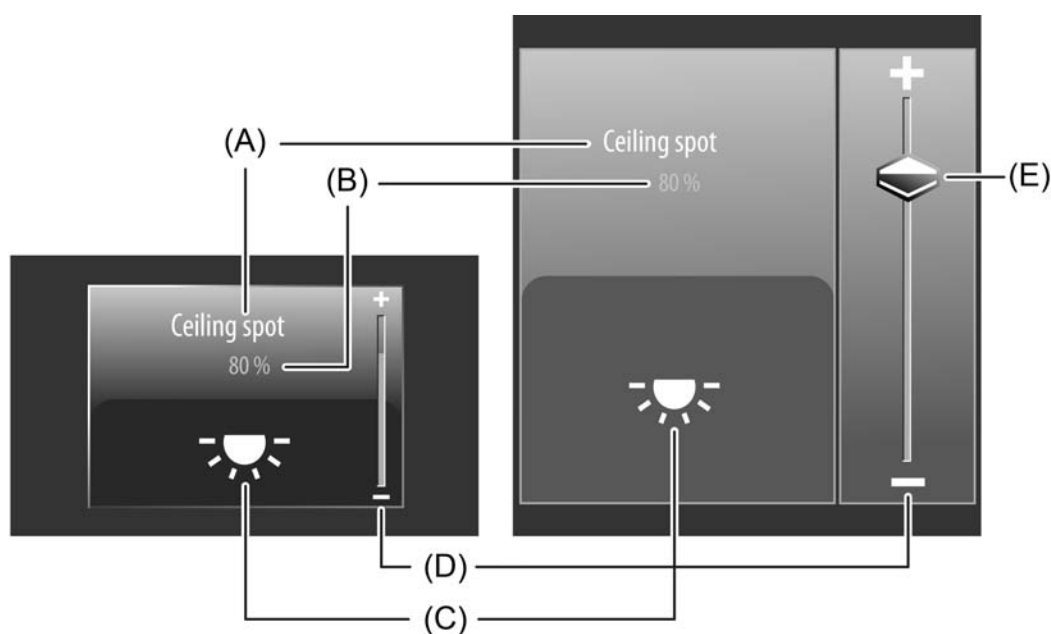

Figure 31: Example of an operating and display element of the channel function "dimming (brightness value)"
In the selection operation, a slider (E) is available in addition to the sensor surfaces + or - for operating switching or continuous dimming processes (figure 31). It is possible to specify brightness values directly with graphic support using the slider. For this purpose, the slider can be set by finger pressure or continuously moved. To set the slider, you must touch the slider area at the required brightness level with your finger. The slider then jumps immediately to the required position. At the same time, the device transmits the brightness value specified thus as a presetting to the bus.
The display area contains different display elements (figure 31) that are influenced by ETS parameters. A name can be assigned to each KNX channel in the ETS (A). This text name is centred in the display element for display whereby controllable KNX functions are identified for the user (e.g. "ceiling spot"). In addition, a status value (B) can be displayed below the name, which displays brightness values in plain text ("0...100 %") depending on the object value of the dimming value feedback of the dimmer actuator addressed. After a device reset, the display shows "---%" until a feedback object value of the status text is received.